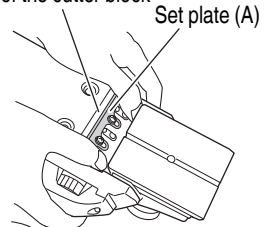

Fig. 28
- (1) Insert a turned portion of set plate (A) attached to the blade into a groove on the flat portion of the cutter block. (Fig. 28, 29)